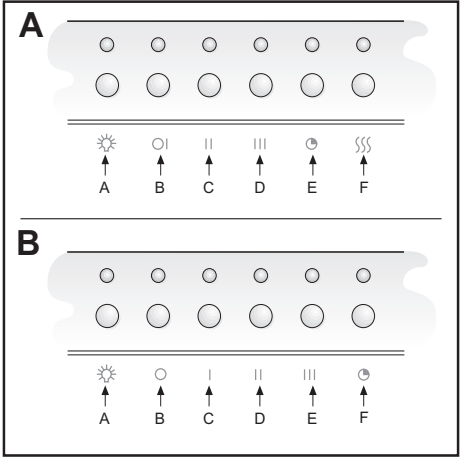

Fig.12
• COMANDO: ELETTRONICA (Fig.12 A)
- **LUMINOSI** (Fig.11A) - **ELETTRONICA** (Fig.12 B)